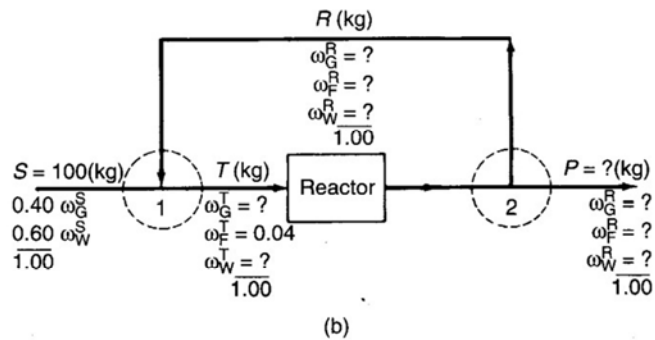

Figure E12.3b
- ☒ Figure E12.3b includes all the known and unknown values of the variables using appropriate notation (W stands for water, G for glucose, and F for fructose).